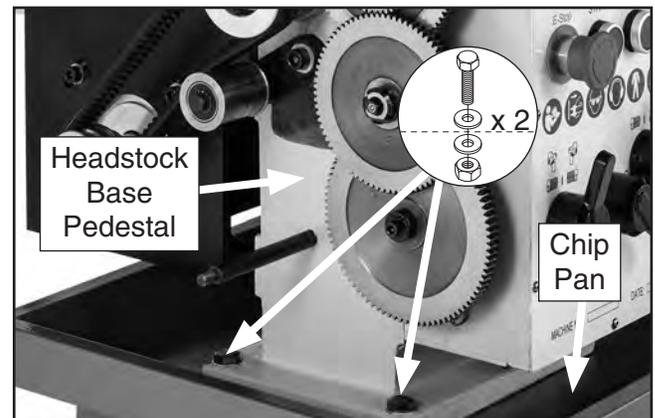

Figure 18. Lathe attached to stand and chip pan (left side mounting hardware shown).
- Remove change gear cover to gain better access to headstock base pedestal (see **Figure 18**).
- Attach lathe to stand and chip pan (see **Figure 18**) with (6) M10-1.5 x 40 hex bolts, (12) 10mm flat washers, and (6) M10-1.5 hex nuts. Do not fully tighten fasteners until lathe has been leveled.